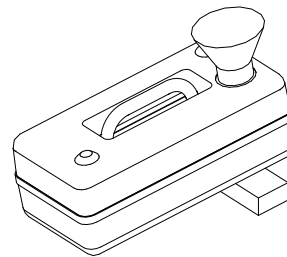

Figure 3-16.
2. Place a funnel into the opening and pour a loosely mixed, flowing concrete into the box. Funnel may require slitting to fit opening of Ballast Block. To achieve the required Ballast Block weight of 50 pounds, fill it completely by positioning it on an angle. See Figure 3-16. The weight of the ballast block may vary due to the consistency of the concrete mix. Do **not** use mortar mix. This will not give the required minimum Ballast Block weight of 50 pounds. Use a scale to determine the weight of the ballast.